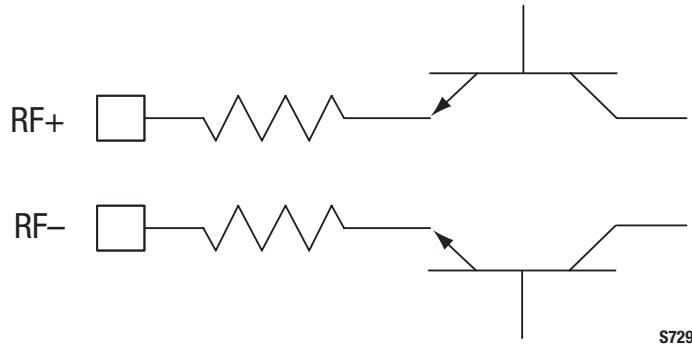
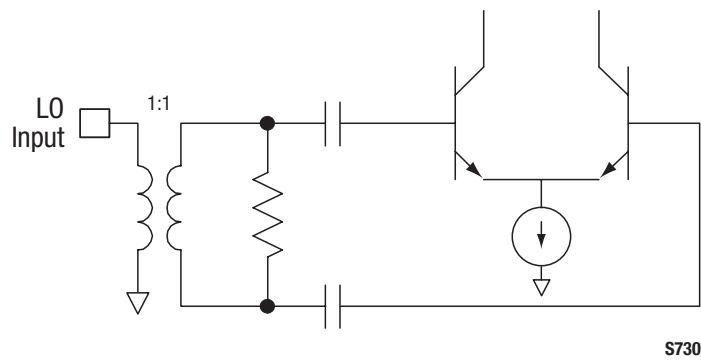

Figure 3. Equivalent Circuit for the RF input
Figure 4. Equivalent Circuit for The LO input.
An equivalent circuit for the RF input of the SKY73009 is shown in Figure 3. The equivalent circuit for the Local Oscillator (LO) input is shown in Figure 4. An internal balun is used to convert the single-ended LO input into a differential signal before being buffered inside the device.